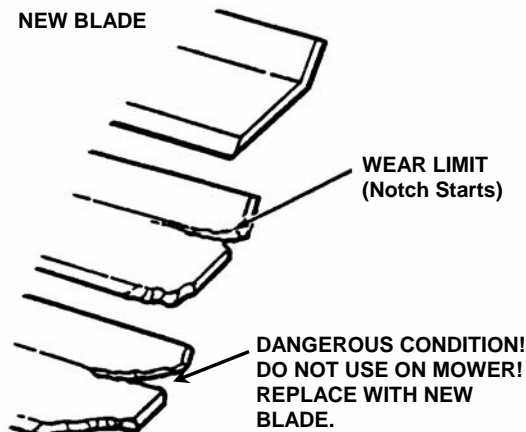

FIGURE 4.11
1. Inspect blade frequently for signs of excessive wear or damage. See Figure 4.11.
5. Inspect condition of blade. See Figure 4.11.